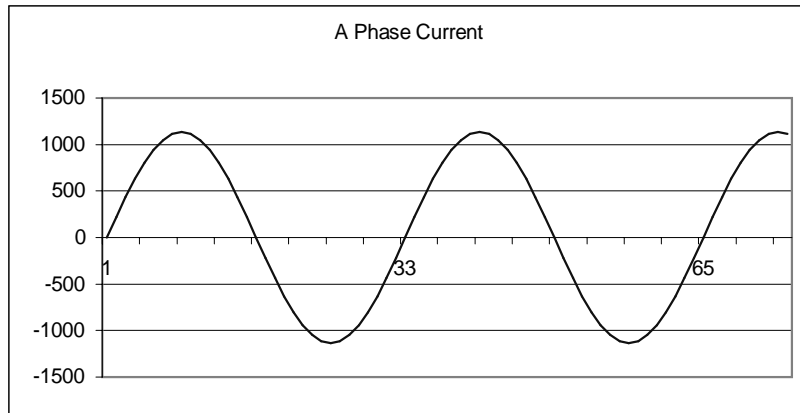
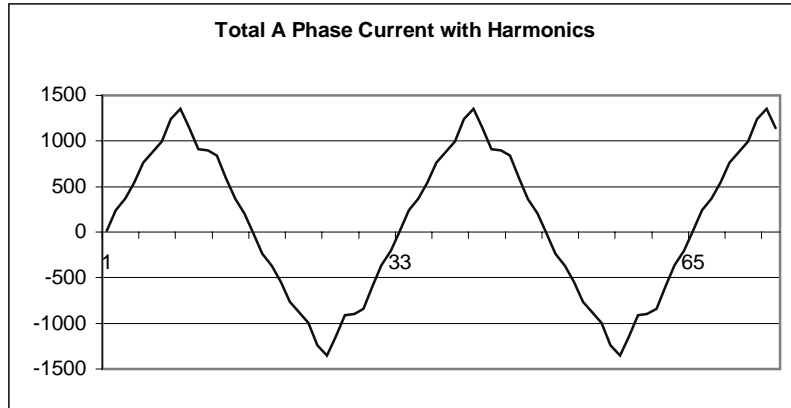
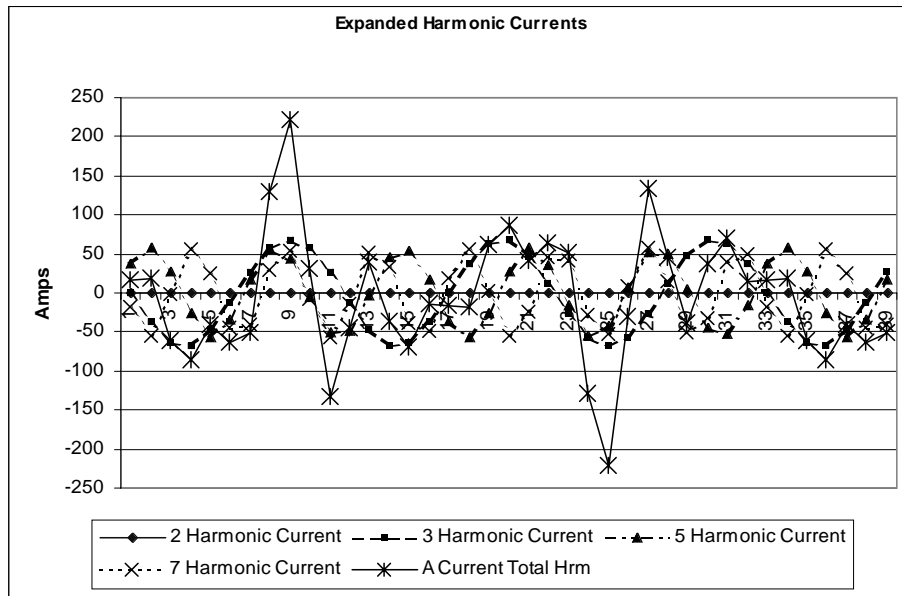

Figure 1.10: Non-distorted current waveform
Figure 1.11: Distorted current wave
Figure 1.12: Waveforms of the harmonics
- Harmonic distortion is primarily the result of high concentrations of non-linear loads. Devices such as computer power supplies, variable speed drives and fluorescent light ballasts make current demands that do not match the sinusoidal waveform of AC electricity. As a result, the current waveform feeding these loads is periodic but not sinusoidal. Figure 1.10 shows a normal, sinusoidal current waveform. This example has no distortion.
- Figure 1.11 shows a current waveform with a slight amount of harmonic distortion. The waveform is still periodic and is fluctuating at the normal 60 Hz frequency. However, the waveform is not a smooth sinusoidal form as seen in Figure 1.10.
- The distortion observed in Figure 1.11 can be modeled as the sum of several sinusoidal waveforms of frequencies that are multiples of the fundamental 60 Hz frequency. This modeling is performed by mathematically disassembling the distorted waveform into a collection of higher frequency waveforms. These higher frequency waveforms are referred to as harmonics. Figure 1.12 shows the content of the harmonic frequencies that make up the distortion portion of the waveform in Figure 1.11.
The waveforms shown in Figure 1.12 are not smoothed but do provide an indication of the impact of combining multiple harmonic frequencies together.